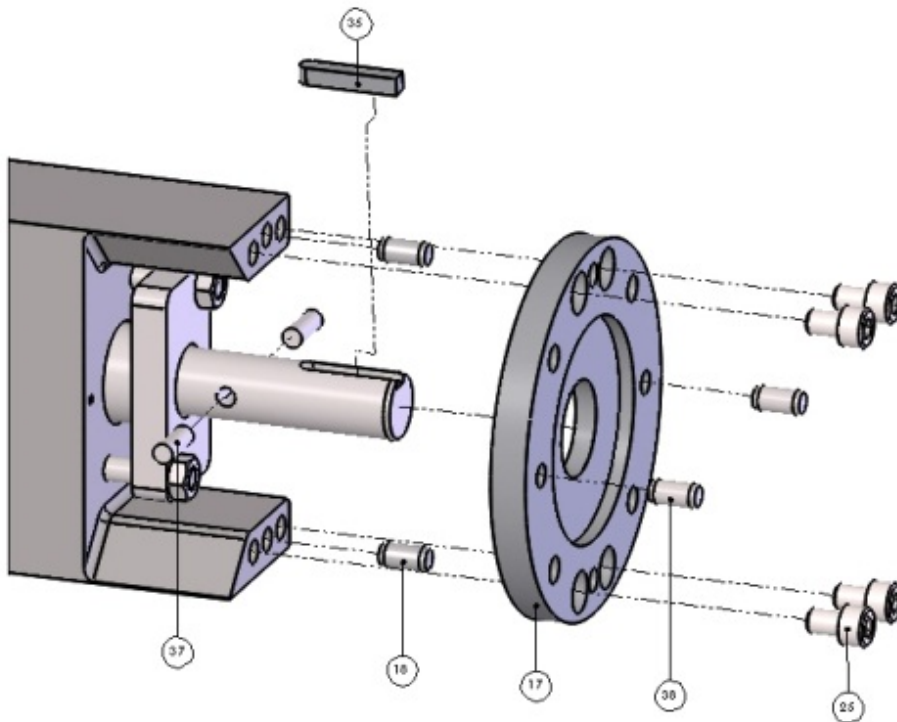

Fig. 5c
- f. Fit the anti-blowout device (Item 37). (see fig. 5c)